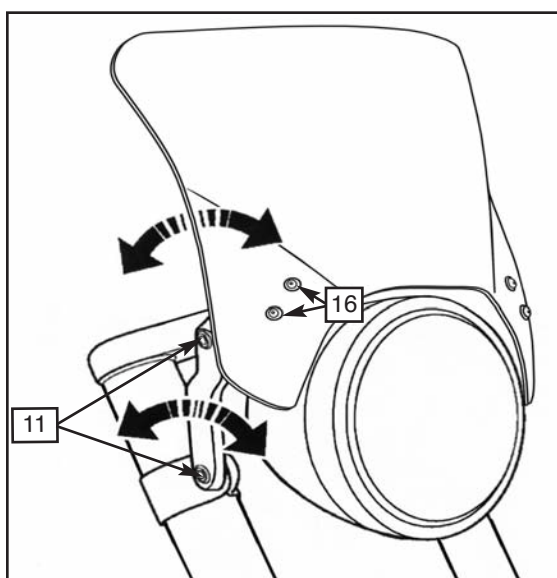

Figure 7
15. Adjust the Windshield to the desired position and securely tighten the 4 Screws (11). **(6mm Hex Wrench) Figure 7**
16 Securely tighten the 4 Screws (16) and Nuts (17) in the Windshield Brackets **(4mm Hex Wrench and 10mm Socket) Figure 7**